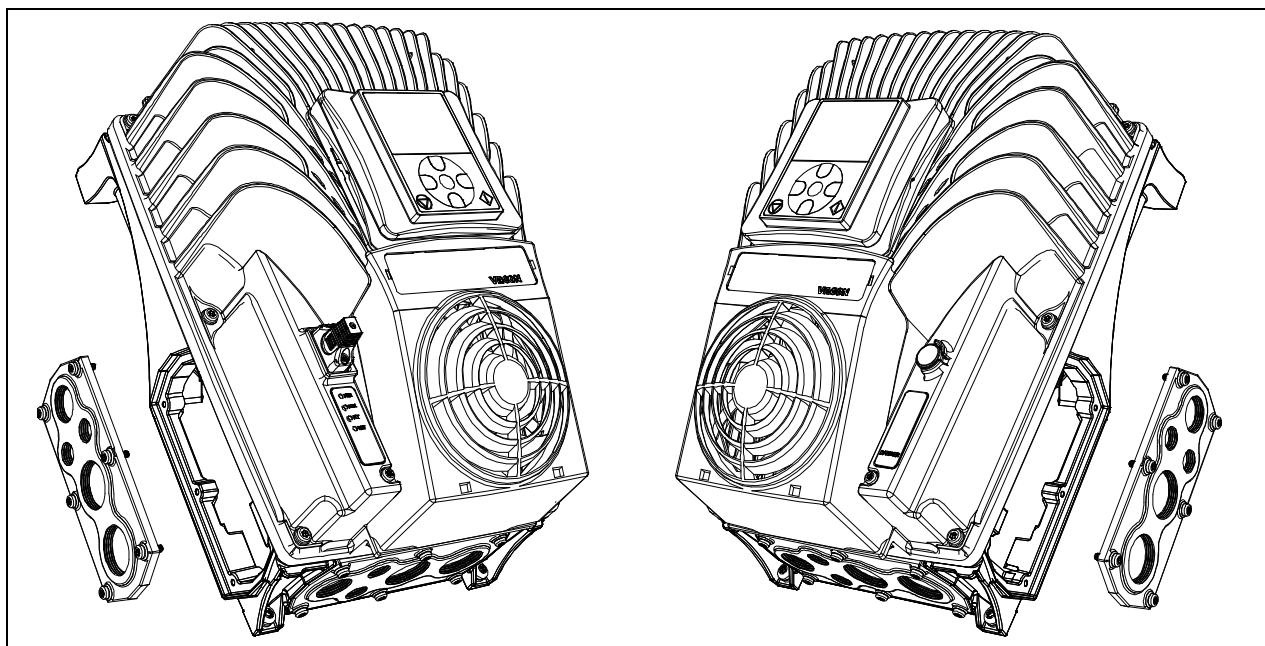

Figure 44. Disconnect the cable entry plate: example for MM5
- Remove the cable entry plate from the drive on the left-hand-side if the mains switch must be mounted on this side. Otherwise remove the cable entry plate from the right-hand-side. See the Figure 44.